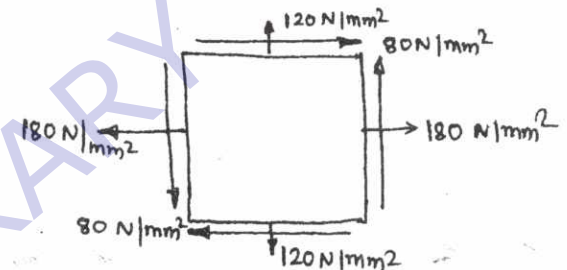

Fig.Q3(c)
- b. Establish the relationship between Young's modulus (E), modulus of rigidity (G) and Poisson's ratio (γ). (08 Marks)
- c. The state of stress at a point in a strained material is as shown in Fig.Q3(c). Determine i) The direction of principal planes ii) The magnitude of principal stresses iii) The magnitude of maximum shear stress & its direction. Indicate all the above planes by a sketch. (10 Marks)